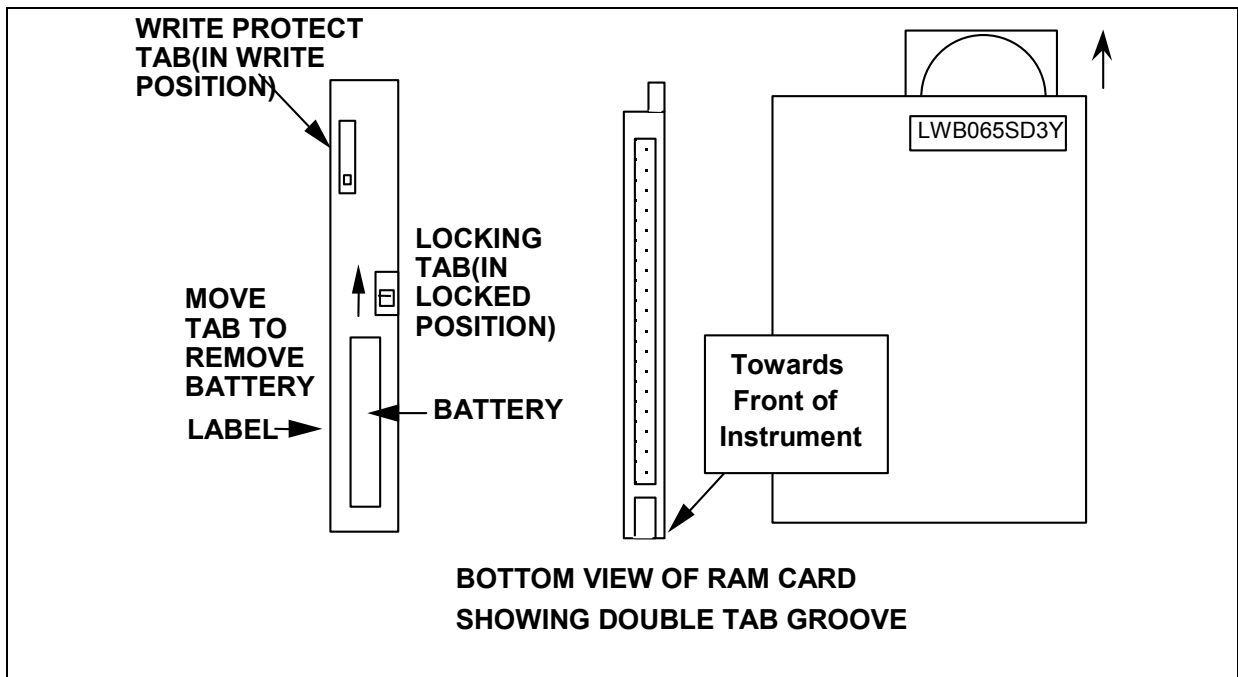

FIGURE 11-3: Replacing the RAM Card
RAM cards supplied by Ionics Instruments have a label on one side of the card. Hold the card with the label facing down and insert the RAM card into the reader. In the proper orientation, the write protect switch on the card and the single tab groove will be located on the front, left-hand side of the card as it is inserted into the reader (see Figure 11-3). Press the card firmly into the reader. The pins slide into the card connector. If the card is installed upside-down, the pins will not be aligned, and the card will not be able to be pressed fully into the card reader.
3. Hold the card so that the double tab groove on the bottom of the card (see Figure 11-3) is facing towards the front of the analyzer. The label on the card will be facing to the left-hand side of the analyzer.